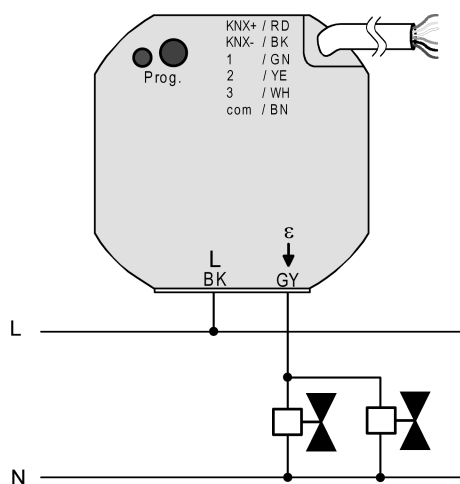

Figure 4: Connection of the mains voltage and the load
- (4) Device box (e.g. electronics box)
- (5) Partition
- (6) Series switch
- (7) Potential-free contact, e. g. window contact
- Connect the mains voltage and electrothermal actuators using the included screwless terminals (Figure 4).